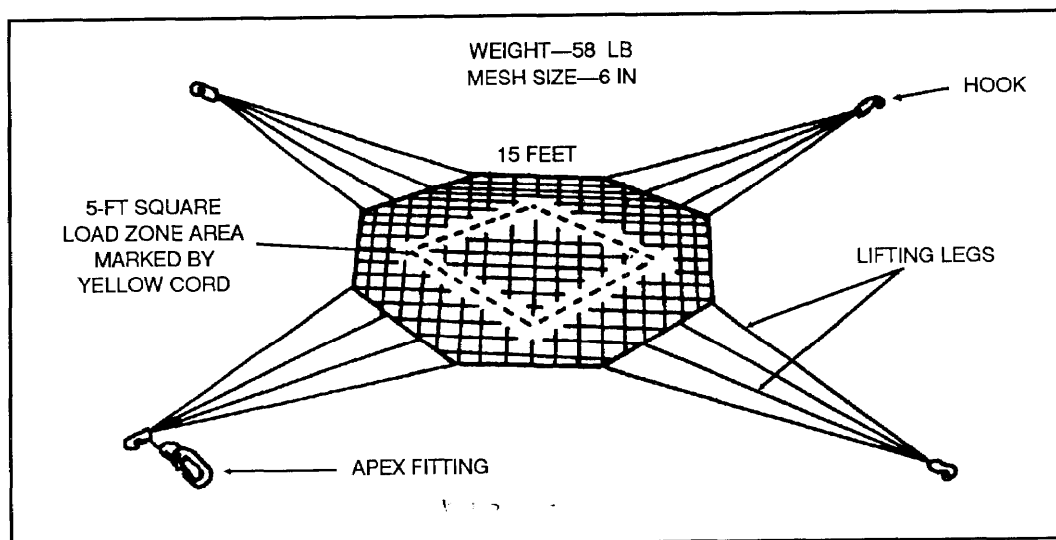

Figure I-6. The 5,000-pound capacity cargo net.
(1) *The 5,000-pound capacity net.* The 5,000-pound cargo net (Figure I-6) is octagon-shaped and measures 15 feet across the flat sides. The net is made of olive-drab nylon cord. The four hooks attach to the apex fitting. The apex fitting is then attached to the helicopter cargo hook.